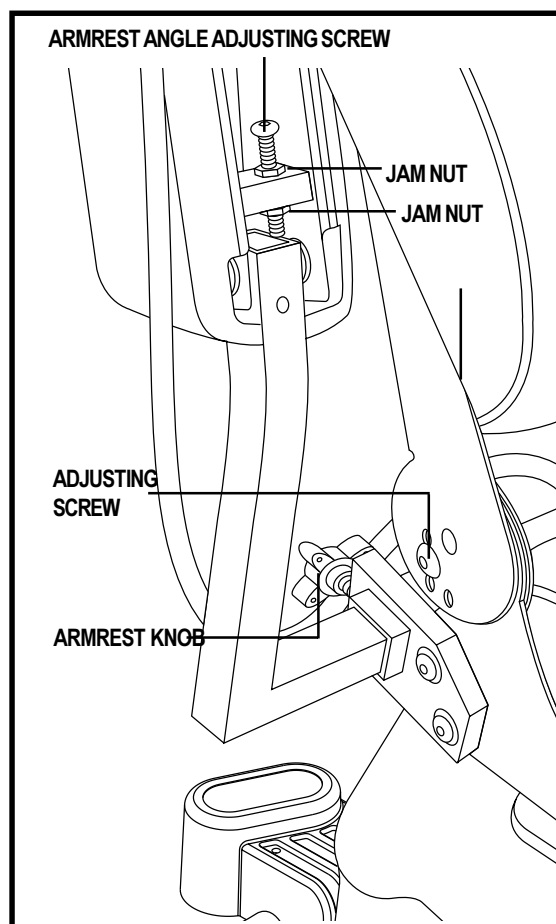

Figure 16. Seatback and Armrest Adjustments
1. Remove the adjusting screws on both seat hinges. See figure 16.
1. Locate the two armrest knobs on each side of the armrest receiver bracket. See figure 16.
2. Loosen the jam nuts. See figure 16.
4. Turn the adjusting screw clockwise to raise the front of the armrest, or turn the adjusting screw counterclockwise to lower the front of the armrest. See figure 16.